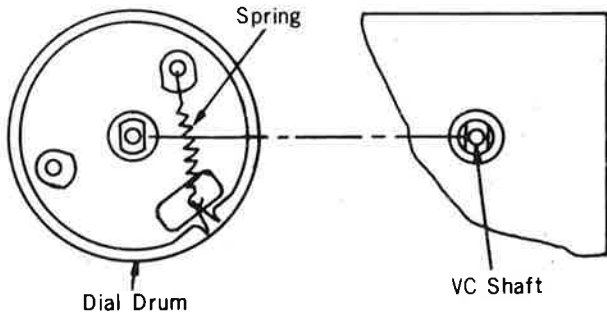

Fig. 3
1. Turn Tuning capacitor shaft to fully counter-clockwise as illustrated in Fig. 3.